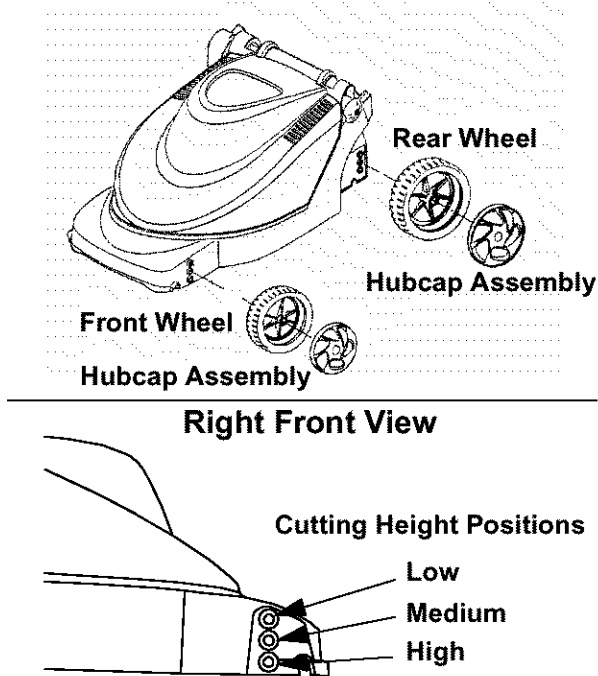

Figure 1
- Refer to Figure 1 and insert the hubcap assembly through the wheel and thread the complete assembly into the desired height adjustment position by hand.
- Repeat this step for all wheels, being certain that all four wheels are in the same height position for an even cut. Refer to Figure 1 for cutting height positions.
- Also, be certain the smaller front wheels and the larger rear wheels are mounted correctly to the front and rear of the mower as shown in Figure 1.